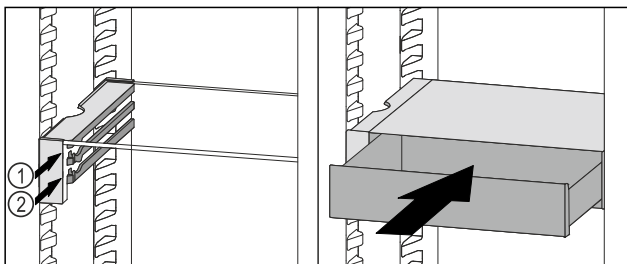

Fig. 142
- ▶ Place the VarioSafe drawer behind the stoppers on desired rib Fig. 142 (1) or Fig. 142 (2).